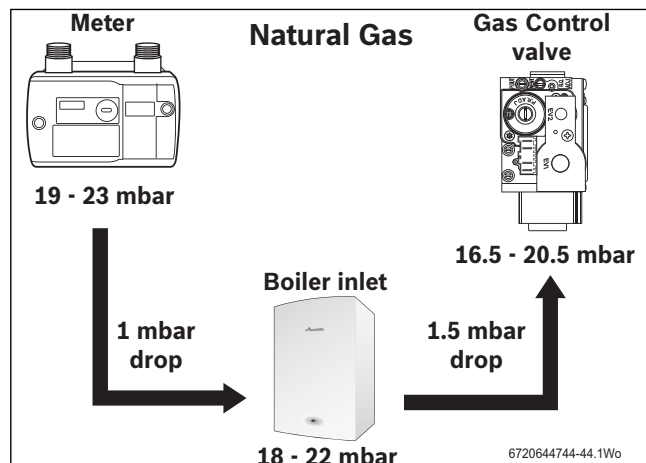
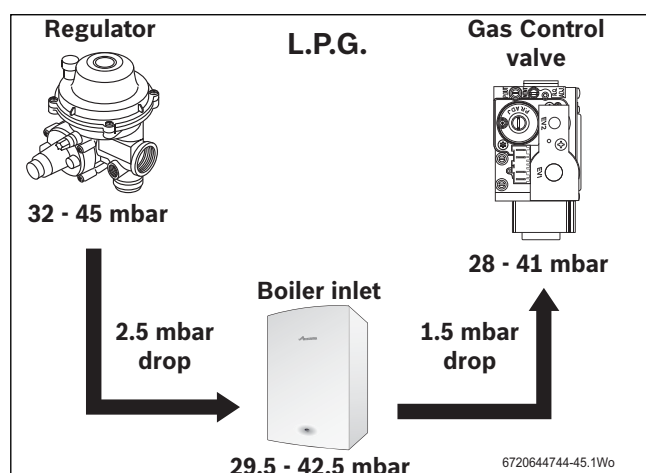

Fig. 50 Natural gas pressures
Fig. 51 L.P.G. pressures
- Press Performance test button (J) for more than ten seconds and set Central Heating temperature to maximum.
- The Performance test button (J) will illuminate continually and the display (C) will alternate between  and the central heating flow temperature.
- Check the gas supply working pressure at the gas valve conforms to values shown in Fig. 50 or Fig. 51.
If the pressure drops are greater than shown in fig. 50, this indicates a problem with the pipe work or connections within the system.
If the pressure drops are greater than shown in figure 51, then this would indicate a problem with the pipe work or connections within the system.